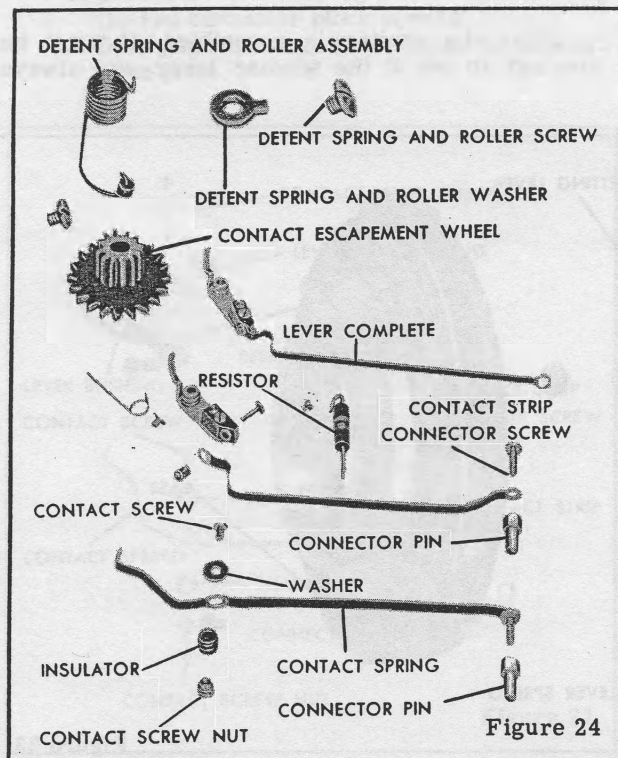

Figure 24
1. CONNECTOR PINS, figure 24, using Tool No. 635.
6. Holding the CONTACT SCREW, figure 24, with Tool No. 262, remove the CONTACT SCREW NUT, using Tool No. 503L. Remove the contact screw, the case insulator WASHER and the CONTACT SPRING. Remove the resistor from the contact lever complete.